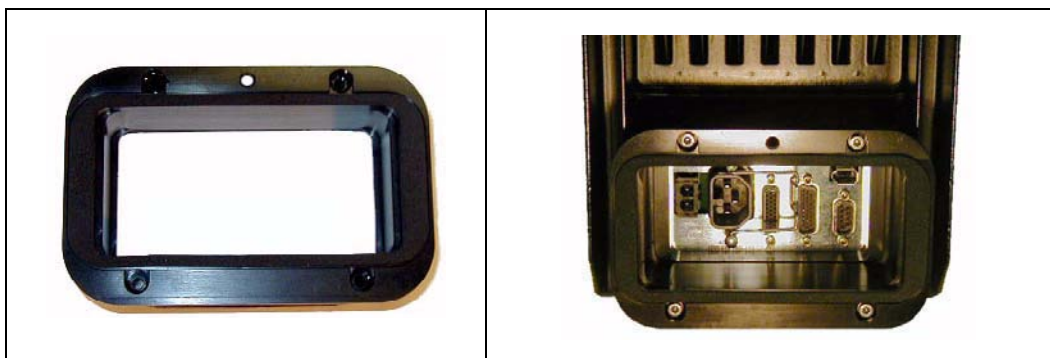

Figure 9-3. AIB Cable Seal Housing (left), Installed (right)
- AIB Cable Seal Housing, 2 gaskets, 4 screws (**Figure 9-3**)